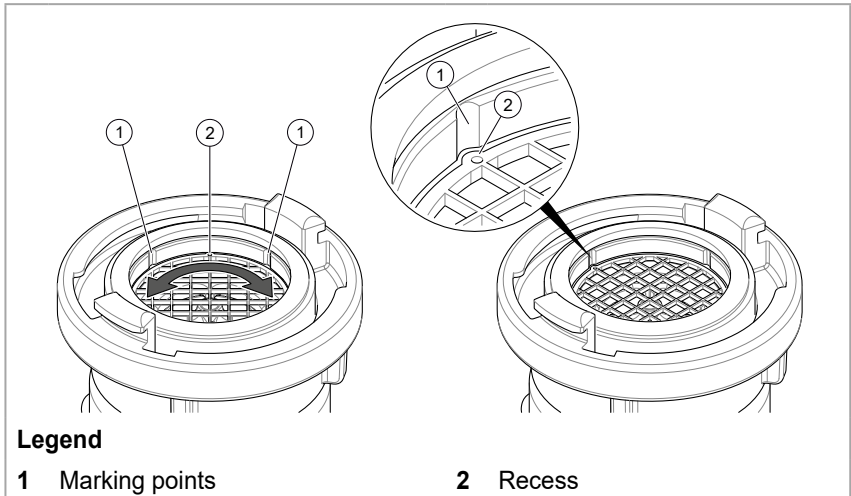

Fig. 3 Remove the screen
1. Turn the screen with needle-nose pliers or another suitable tool until the two opposite marking points (Fig. 3/2) are aligned with the lugs in the recesses (Fig. 3/1) in the inside diameter.